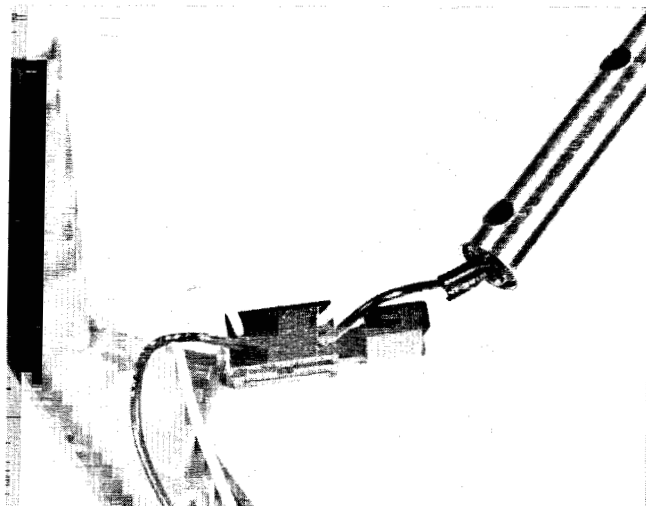

Figure 2.7
2.7 TEST SWITCH CONNECTIONS (fig. 2.7)